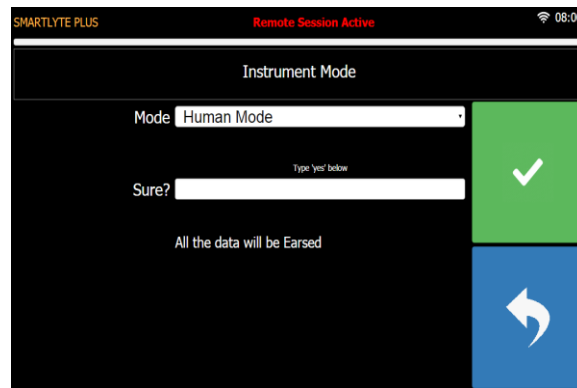

Figure 8-9 Instrument Human Mode
- On Main Menu (Figure 1-33), press **[INSTRUMENT SETTINGS]**, followed by **[INSTRUMENT MODE]** (Figure 8-9).